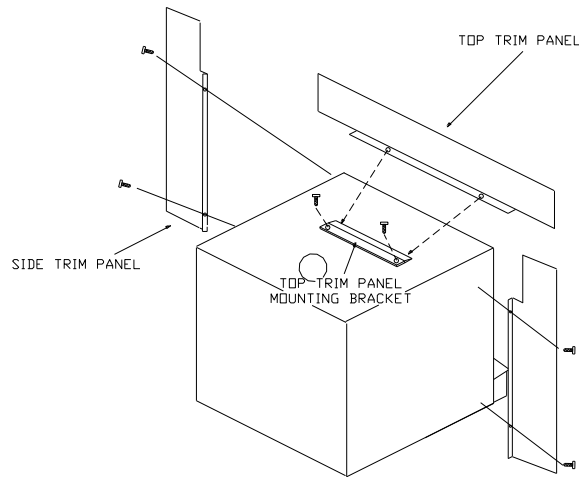

**FIGURE 8 POSITIONING**
When positioning heater, following conditions **MUST** be met! (See Figure 8).
1. The front of damper opening must be positioned **BEHIND** rear edge of lintel to ensure proper draft. (See Figure 8).